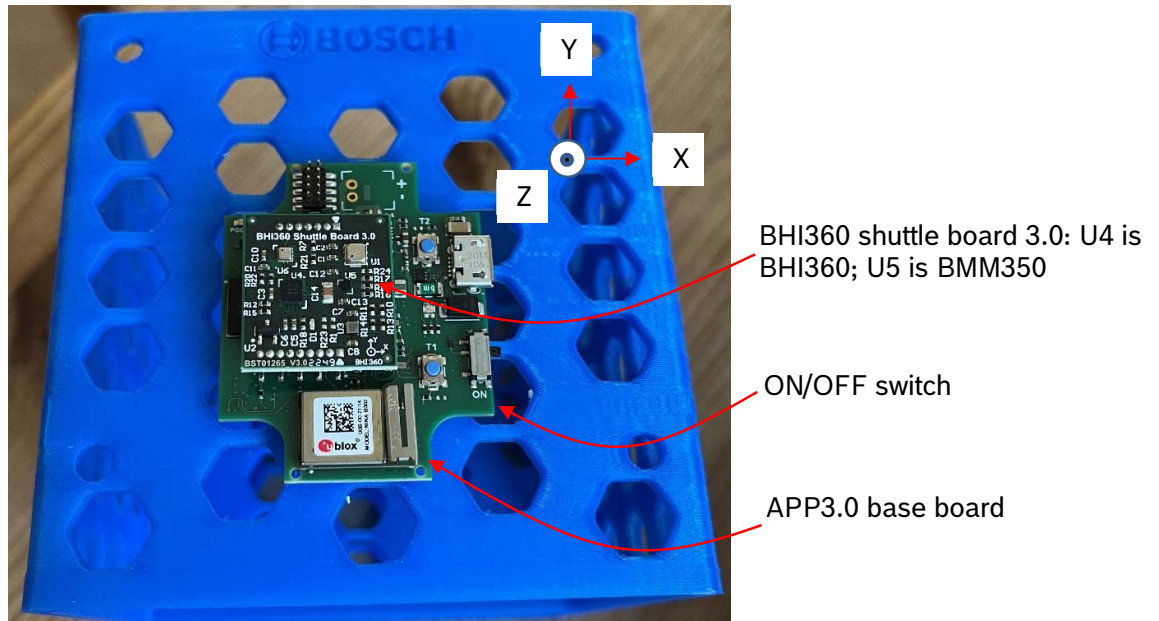

Figure 1 APP3.0 base board and BHI360 shuttle board 3.0
The hardware includes one APP3.0 base board, one BHI360 shuttle board 3.0 and one micro USB cable as shown in Figure 1.
BHI360 X/Y/Z axes are marked in Figure 1. The Euler angle definition from Orientation virtual sensor output is as shown below.
- Heading: rotation around the Z axis ( $0^\circ \leq \text{heading} < 360^\circ$ ).  $0^\circ$  = North,  $90^\circ$  = East,  $180^\circ$  = South,  $270^\circ$  = West. The heading value increases when you rotate around the Z axis clockwise from top view of Figure 1.